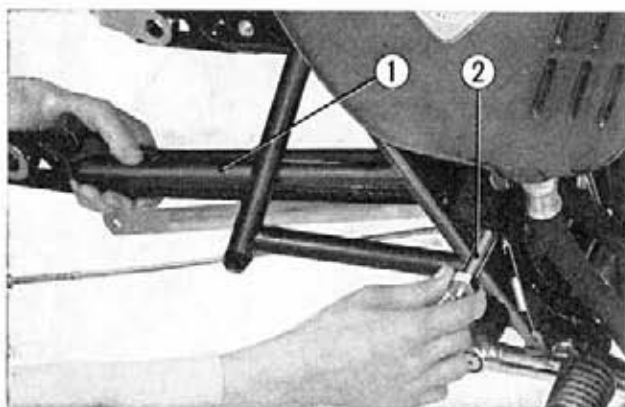

Fig. 12-8 ① Rear fork
4. Unscrew the rear fork pivot nut and bolt, and then separate the rear fork from the frame. The rear fork side washer and the pivot collar can be removed. (Fig. 12-8)